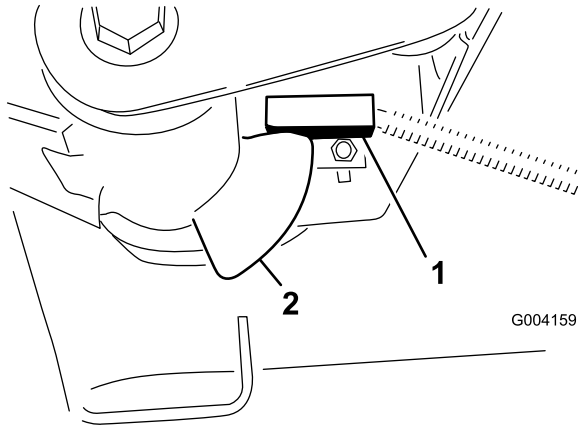

Figure 41
2. The lift arm switch is located underneath the hydraulic tank behind the front right lift arm (Figure 41).
3. Loosen the switch mounting screws (Figure 41) and move the switch down to increase the lift arm turn around height or move the switch up to decrease the lift arm turn around height. Tighten the mounting screws.